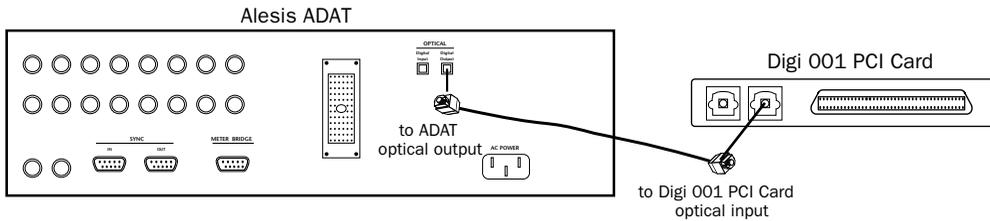

Figure 13. Connecting ADAT optical output to the Digi 001 PCI Card optical input
- 1 Connect the ADAT optical output to the Optical In port on the Digi 001 PCI Card (see Figure 13 on page 41).